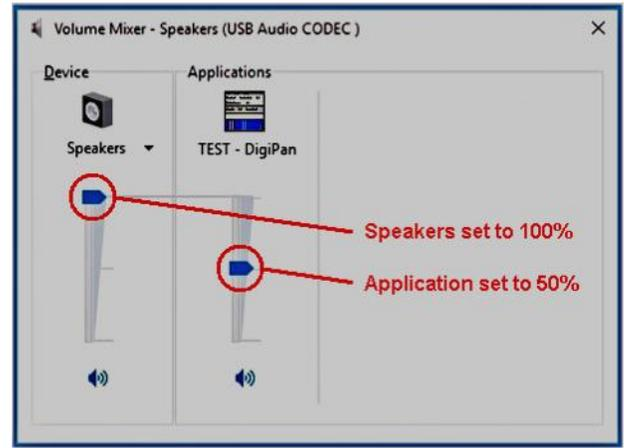

Figure 6 ◊ Volume Mixer adjustment
The Signalink USB attaches to the radio through the "Radio" connector located on the rear of the unit. This connector brings all of the required radio lines into the Signalink USB so that each line can be connected to the appropriate matching line inside the Signalink. The Signalink USB uses the radio's Ground, PTT, Speaker and Mic lines (or the equivalent signals if using a Data or Accy Port). Because the location of these signals on the radio connector varies from radio to radio, we have provided a "Programming Socket" inside the Signalink. See "JP1" in Figure 6 10 (page 9) for the location of this socket. The JP1 Programming Socket provides a convenient way to route the various signals to the correct pins on the radio connector. This is accomplished with either an optional jumper module, or the supplied "press-in" jumper wires. In either case, **no soldering is required.**
- You should now see a volume mixer window similar to the one shown below in Figure 6. Note that the Applications volume control will display the name of the communication program that you are using or something similar (we've used the DigiPan program for our example). If you do not see the Applications volume control, then you will need to close this window, put your program in Transmit and then re-open the window. If you still do not see the Applications volume control, then double-check that your communication program is properly configured and actually in Transmit (see ◊Communication Program Setup◊ above).